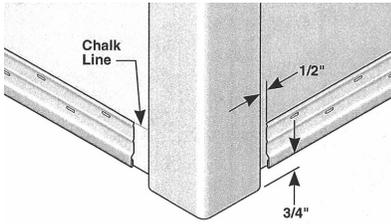

Fig.1 Standard Corner Post
- To allow for movement, install starter strip (or J-channel)  $\frac{1}{2}$ " from corner post (see Figure 1).